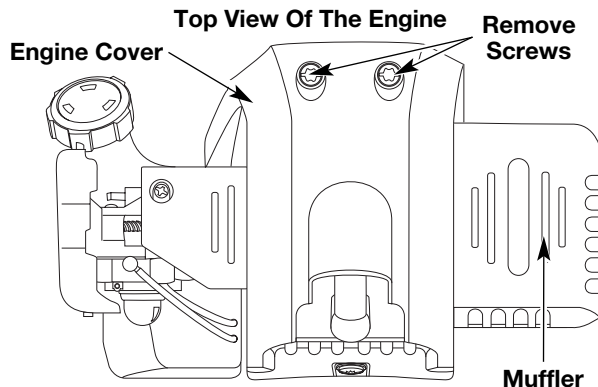

Fig. 40
2. Remove the two (2) screws on top of the engine cover with a Flat-head or T-25 Torx screwdriver (Fig. 40).
6. Remove the engine cover (Fig. 40).